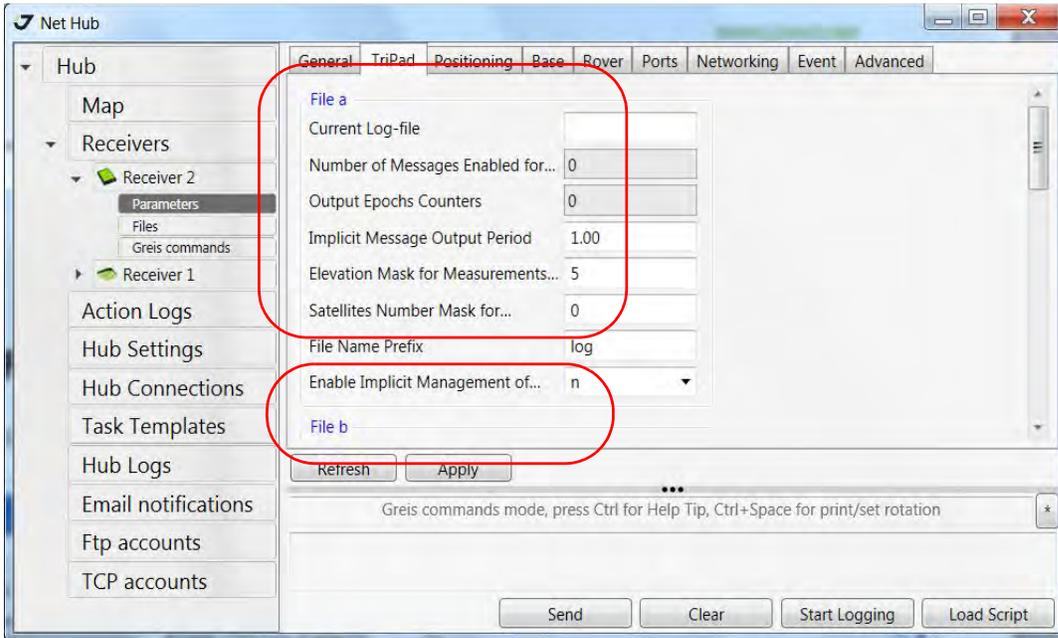

Figure 1-8. TriPad tab settings
- Open the *TriPad* tab and set the following parameters (Table 1-1), click *Apply* (Figure 1-8 on page 22).